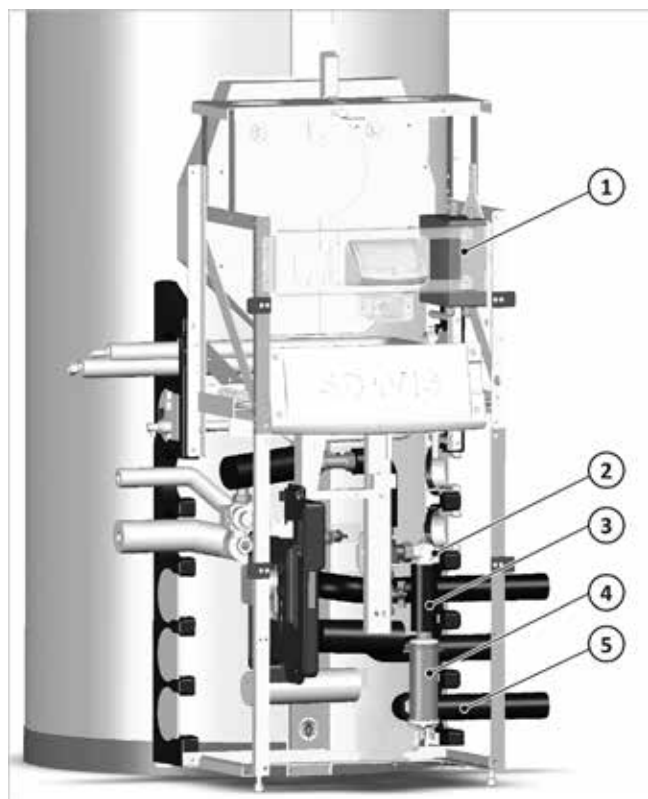

Fig. 9: Position of the components in the charging module
→ Fig. 9 shows the position of the connection box (1) and heating cartridge (4) in the charging module. The connection pipes for the heating pump and heating flow can be routed through the side pipe lead-through on the right or left.
1. Screw the connection box onto the top of the charging module; see → fig. 9 (1).